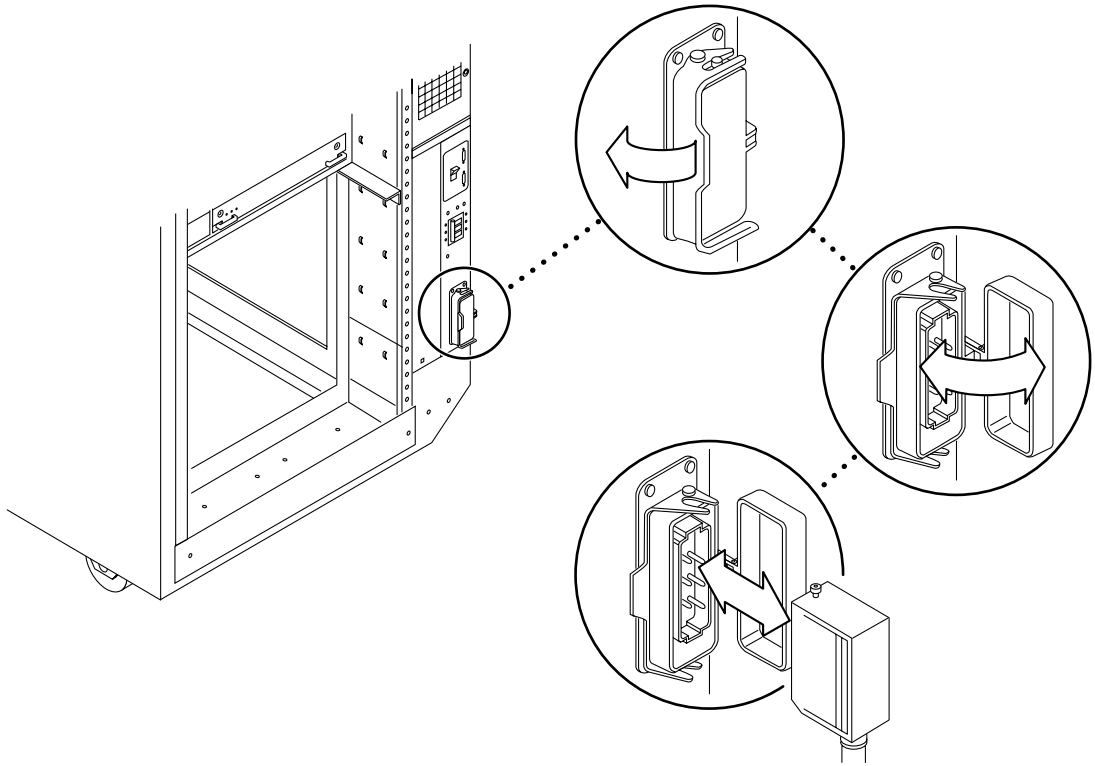

FIGURE E-2 Opening the Power Connector Cover
- 3. Push back and release the latch (FIGURE E-2) attaching the power cable to the power connector .**
- 1. Pull back the power connector cover (FIGURE E-2) to expose the power connector.**